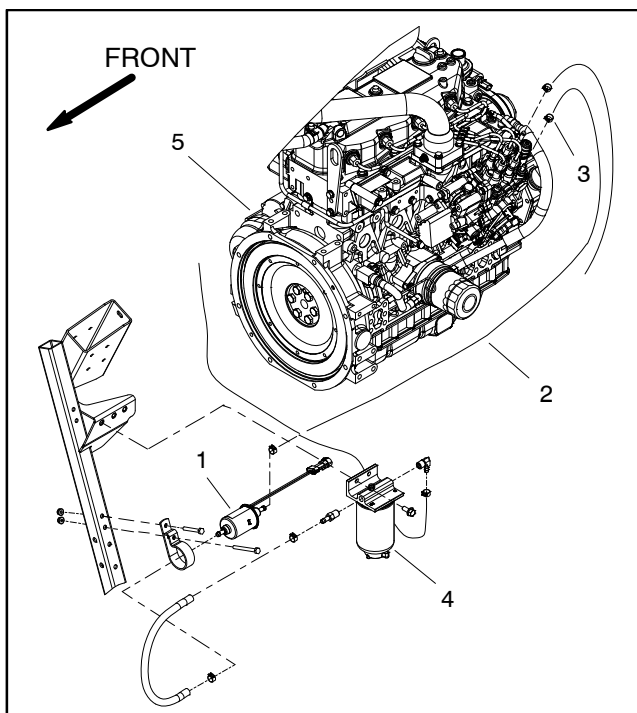

Figure 57
The fuel pump is attached to the air cleaner mount below the fuel water separator (Fig. 57).
2. Disconnect fuel supply hose from the fuel injection pump fitting on the engine (Fig. 57). This hose is the fuel pump discharge.
5. Collect fuel in the graduated cylinder by turning ignition switch to the ON position. Allow pump to run for fifteen (15) seconds, then turn switch to OFF.
6. The amount of fuel collected in the graduated cylinder should be approximately **16 fl oz (475 ml) after fifteen (15) seconds.**